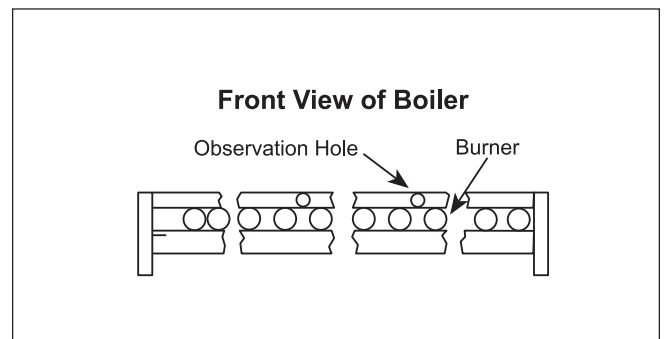

Figure 15. Periodic Flame Observation.
1. If a strainer is employed in a pressure reducing valve or in the piping, clean it every six (6) months.
2. At start-up and every six (6) months thereafter, the pilot and main burner flame should be observed for proper performance (see Figures 15 and 16; see attached lighting and shutdown instructions for proper pilot flame pattern). If flame has the appearance of “sooting” tips, check for debris near orifices. Call service technician.